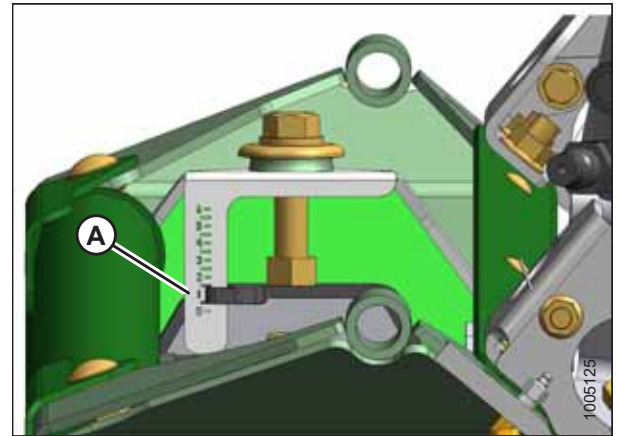

Figure 3.70: Roll Gap Gauge
- Refer to Figure 3.70, page 49: Confirm the roll gap is at the 1.5 line (A).Gauge readings should be the same at both ends of the roll.